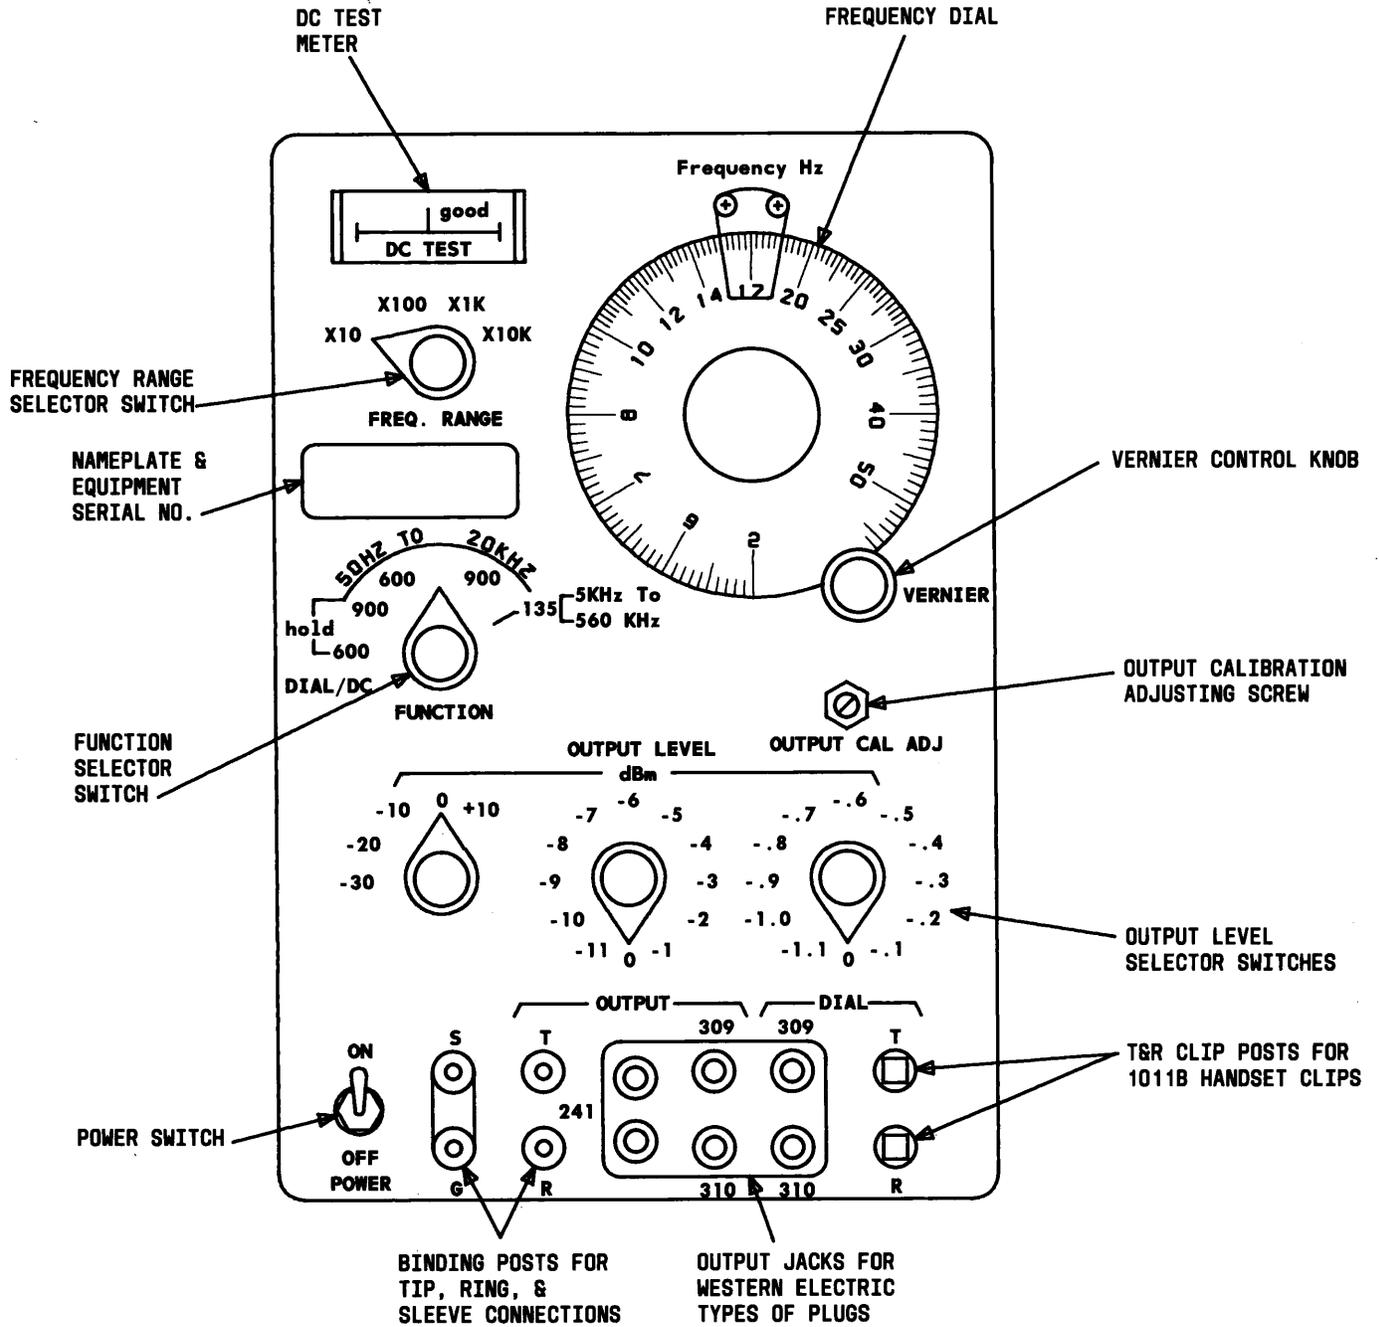

Fig. 2—Front Panel
3.01 The power switch is located in the lower left portion of the front panel and labeled POWER (See Fig. 2). It is a toggle switch and it controls the power to the oscillator. The ON and OFF switch positions are clearly labeled.
3.02 The DC test meter is located in the upper left portion of the front panel and labeled DC TEST (see Fig. 2). The test meter provides a check of the rectified AC voltage or the battery voltage depending on the power supply selected with the AC/BAT switch. The vertical line at the center of the scale marks the lowest limit of battery voltage on which the oscillator can operate. If the reading is to the left of the vertical mark the battery must be replaced.
3.03 The frequency dial is the large, graduated dial in the upper right portion of the front panel labeled FREQUENCY (see Fig. 2). The dial is graduated from 4.9 through 56 increasing in the clockwise direction of rotation. The dial settings in conjunction with the FREQ. RANGE switch selects the desired frequency between 50 Hz and 560 kHz. The frequency dial is accurate to within $\pm 3\%$ of the indicated setting. The frequency VERNIER switch allows a more precise frequency selection than $\pm 3\%$ (see paragraph 3.05).
3.04 The frequency range switch is located to the left of the frequency dial in the upper left portion of the front panel and labeled FREQ. RANGE (see Fig. 2). It is a decade multiplier type switch which multiplies the value of the setting indicated on the FREQUENCY dial. The FREQ. RANGE switch has four settings labeled X10, X100, X1K, and X10K. The number at each setting is the number by which the FREQUENCY dial setting is multiplied to give the actual frequency of the signal generated by the oscillator. If the FREQUENCY dial is set at 8 and the FREQ. RANGE switch is set at X100, the frequency of the signal generated is 800 Hz. The product of the FREQUENCY dial and the FREQ. RANGE switch is the signal frequency.
3.05 The frequency vernier control knob is located adjacent to the FREQUENCY dial in the middle right portion of the front panel and labeled VERNIER (see Fig. 2). The VERNIER control provides a 5:1 reduction of rotation compared to the FREQUENCY dial. It ensures setability to any frequency within $\pm 0.1\%$ of a desired frequency when the oscillator output signal frequency is measured by an external frequency measuring device.
3.06 The function switch is located in the middle left portion of the front panel and labeled FUNCTION (see Fig. 2). It is capable of matching three possible external line impedances, providing a holding circuit for DC signalling through external lines, and enabling external dial through condition or power supply check.
3.08 The output level switches are three selector switches located above the jack field in the lower portion of the front panel. They are labeled OUTPUT LEVEL (see Fig. 2). The OUTPUT LEVEL switch on the right provides level selection in 0.1 dB increments from -1.1 through 0 and the center OUTPUT LEVEL switch has 1.0 dB increments from -11 through 0. The switch on the left has only five settings. It provides level selection in 10 dB increments from -30 through +10. The 0.1 switch and the 1.0 switch contain a full decade range plus an overstep to 1.1 and 11, respectively. Because of the overstep of these two switches, the low end of the output level range is actually -42.1 dBm.
3.09 The output level calibration adjustment is located in the middle right portion of the front panel and labeled OUTPUT CAL ADJUST (see Fig. 2). It is a screwdriver adjustment that provides a means by which the actual output power level can be calibrated to agree with the settings on the OUTPUT LEVEL switches. An external power measuring device must be used for this calibration.
3.10 The output terminals are the jacks and binding posts at the bottom of the front panel labeled OUTPUT (see Fig. 2). From left to right the first binding posts are designated S for sleeve and G for ground. Adjacent to the S and G binding posts are binding posts labeled T and R for tip and ring, respectively. Next to the T and R binding posts is a pair of jacks labeled 241. They are WECO 223 jacks which accept WECO 241 plugs. The last two jacks of the OUTPUT section are designated 309 and 310. The jack labeled 309 is a WECO 246A jack that mates with the WECO 309 plug. The jack labeled 310 is a WECO 238A jack that mates with the WECO 310 plug.
3.11 The dial terminals are the jacks and clip posts to the right of the OUTPUT terminals at the bottom of the front panel (see Fig. 2). They are labeled DIAL. These terminals consist of two jacks and two clip posts. The jack labeled 309 is a WECO 246A jack that mates with the WECO 309 plug. The jack labeled 310 is a WECO 238A jack which accepts the WECO 310 plug. The clip posts marked T (tip) and R (ring) are for the WECO 1011B handset clips.